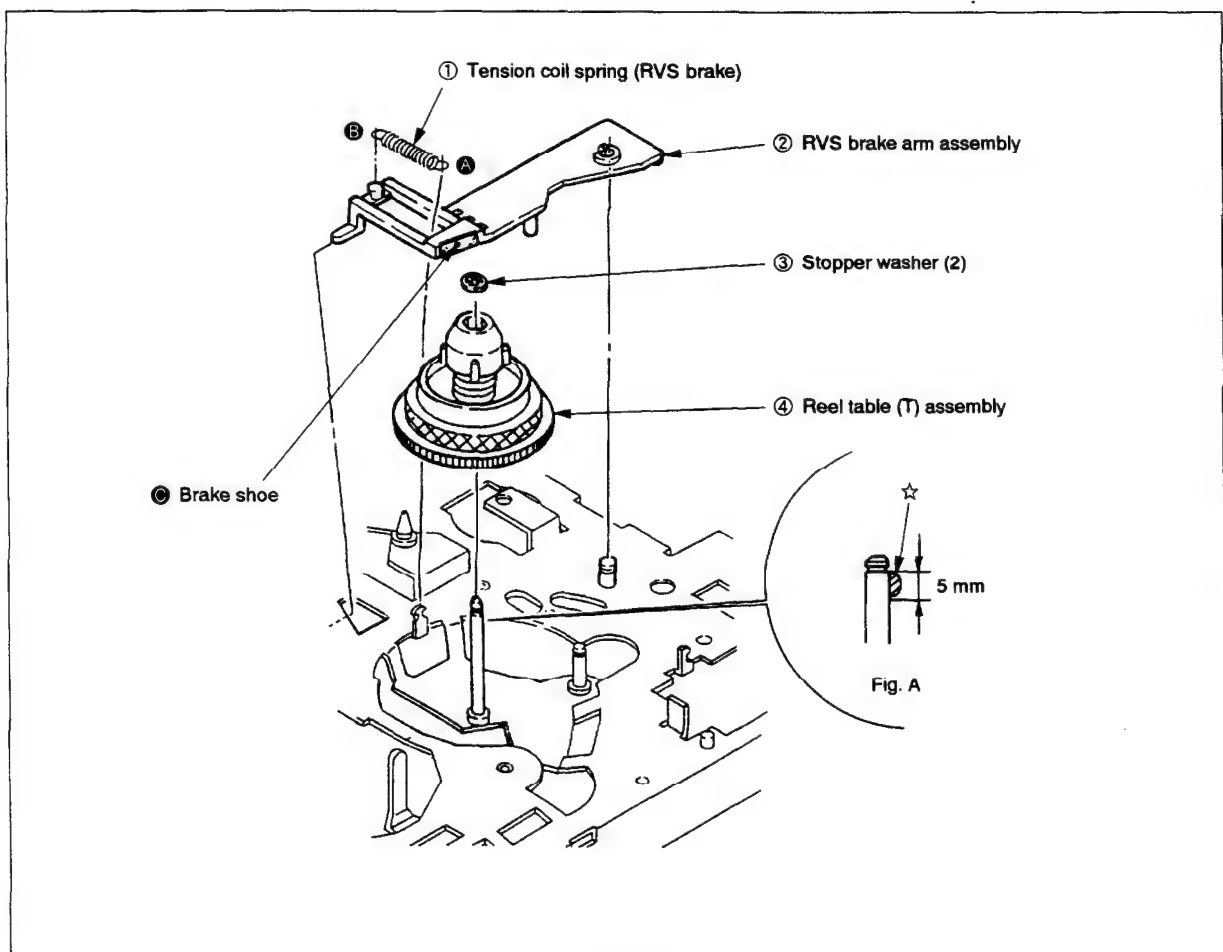

Fig. 3-14
- 2) Remove lid opener ① carefully not to damage claw ㉞.
- 3) Remove tension spring ② from side ㉞ to pull out soft brake T assembly ③.
3-12. RVS BRAKE ARM ASSEMBLY, REEL TABLE (T) ASSEMBLY (Fig. 3-14)
- 3) Remove tension coil spring ① in the order A to B.
- 4) Remove RVS brake arm assembly ②.
- 5) Remove stopper washer (2) ③ to pull out reel table (T) assembly ④.